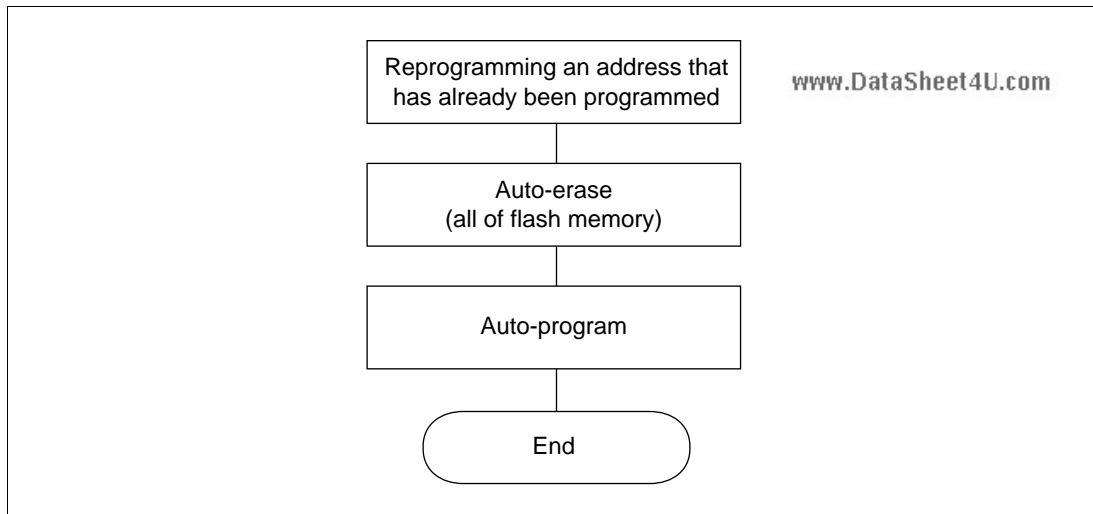

Figure 17.35 Reprogramming an Address that has Already Been Programmed
- When programming addresses which have previously been programmed, carry out auto-erasing before auto-programming. (See figure 17.35.)